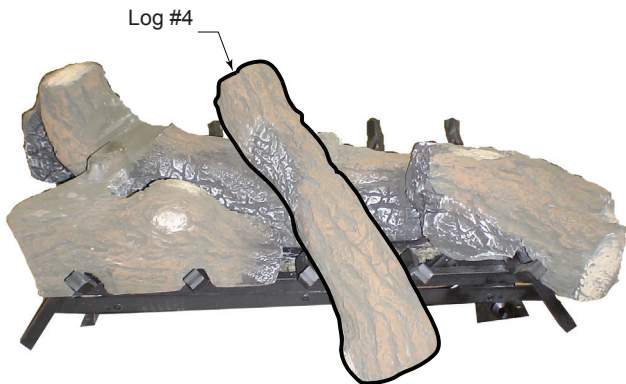

Figure 4 - Place Log #4
- Place log #4 by aligning the 'V' notch on bottom of log with horizontal grate bar between tines as shown in *Figure 20*. Place the rectangular notch on bottom of log onto the matching rectangular protrusion on log #1. *Figure 4*